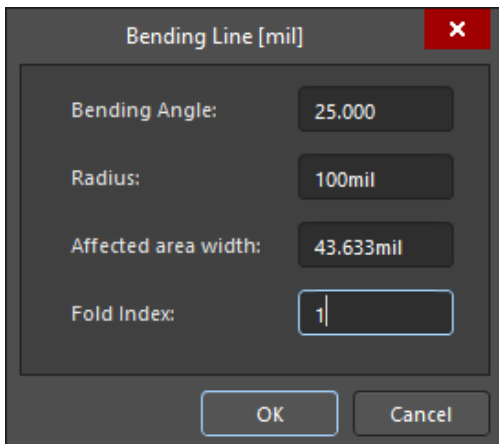

Figure 13. Bending Line Properties
- Select the far-right bending line assign it a Sequence value - **Fold Index** of 1, **Angle** of 25 and **Radius** of 100mil as shown in Figure 13.